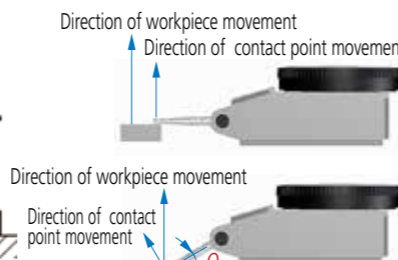

Fig. 4
3. A Dial Test Indicator's scale factor depends on the angle between the directions of movement of contact point and workpiece, and is only unity when these are aligned. In practice, to avoid significant error, if the angle θ (Fig. 4) is kept less than 10° during measurement then the effect of a change in scale factor can be ignored. If this angle cannot be kept small then a factor can be applied to the dial reading to compensation for this 'cosine effect' as per the table below.